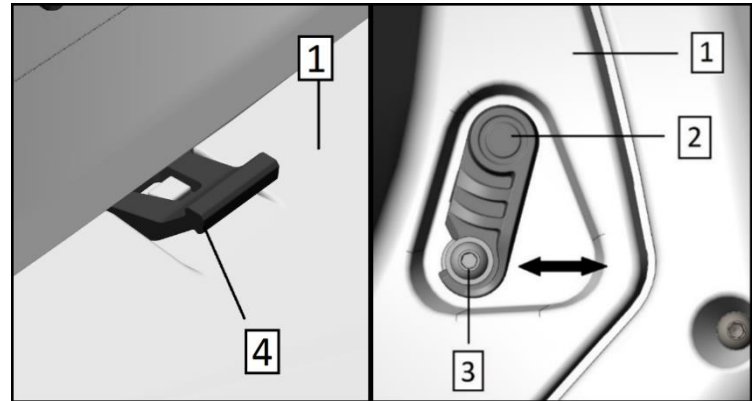

Fig. 30
1. Before clicking, turn the plastic fastener of the panel (position 2, Fig. 30) to unhook the fastener from the locking screw (position 3, Fig. 30).
2. Remove the rubber retainer from the connection with the side panel hook. (Pose 4, Fig. 30)